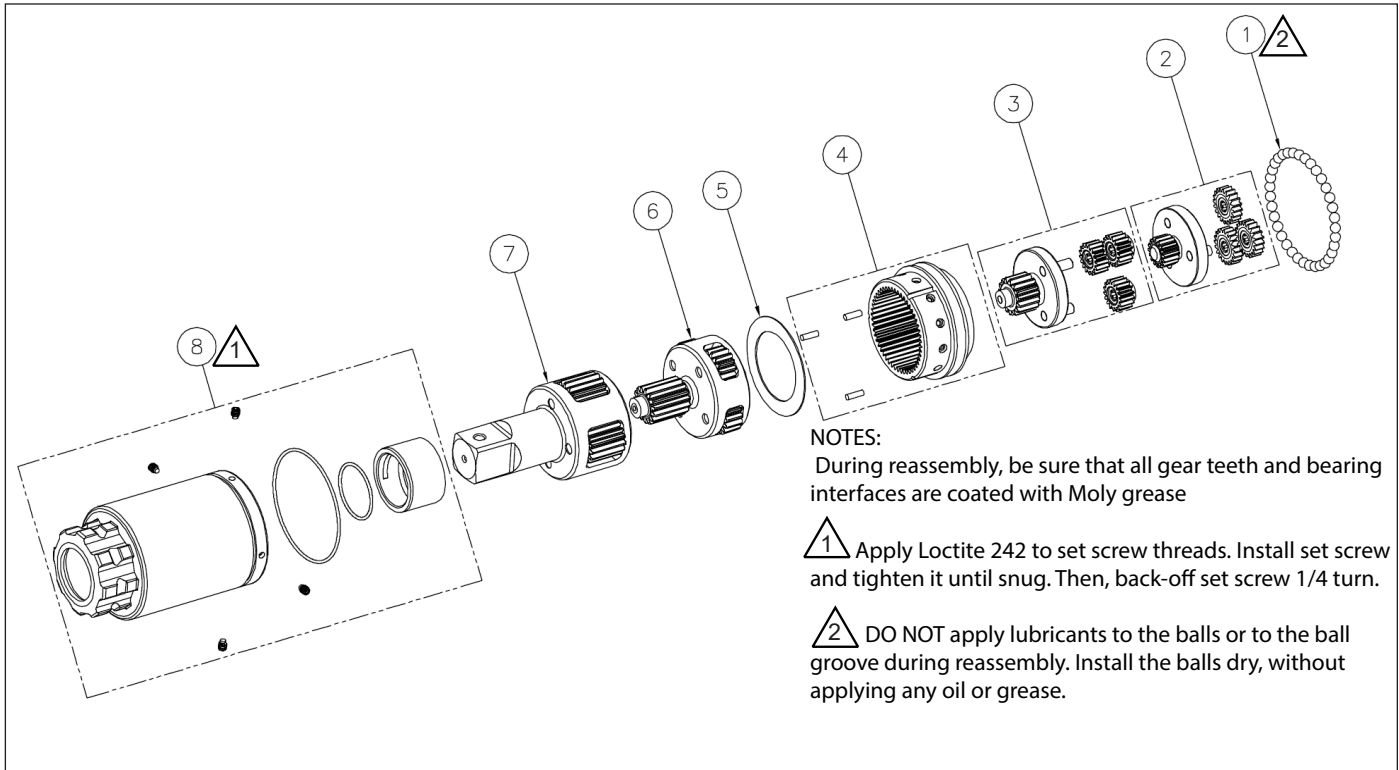

Figure 8: TW1000SR Gearbox Assembly
9.4.1 Table of Parts (Figure 8)